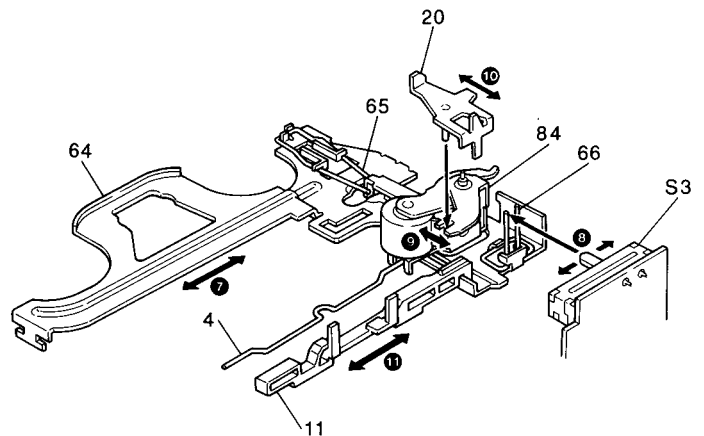

Fig. 8
4. The main plate (64) slides in direction of arrow (❷) in Fig.8 causing the following part movements;
- a) Head switch (10) movement is changed per arrow (❸).
- b) Force transferred from pinch roller spring (4) changes the relation of pinch roller and capstan to each other, per arrow (❹).
- c) Seesaw plate (20) is moved by the main plate and seesaw plate spring (65), and moves seesaw working plate (84). All FF/REW operation is performed by this seesaw plate movement. See arrow (❺).